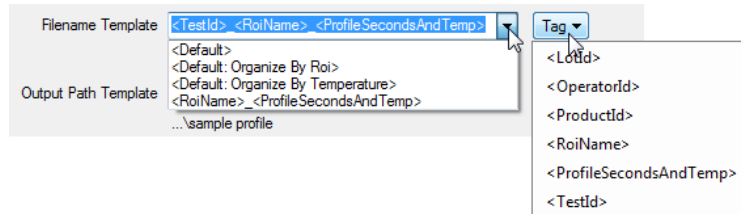

Figure 2.21 Filename Template Metadata Tags
- **Filename Template** – Allows the user to create a standard name for files created by the profile. This usually consists of a list of metadata tags associated with the run, plus the ROI name and temperature for a given reading. See **Appendix A.1.1** for available Metadata fields. The specific tags used and their order can be changed by the user. As **Figure 2.21** shows, the Tag button allows the user to add standard metadata tags by selecting them from a list instead of typing them in manually. The arrow at the end of the box allows the user to select from a few default tag options: